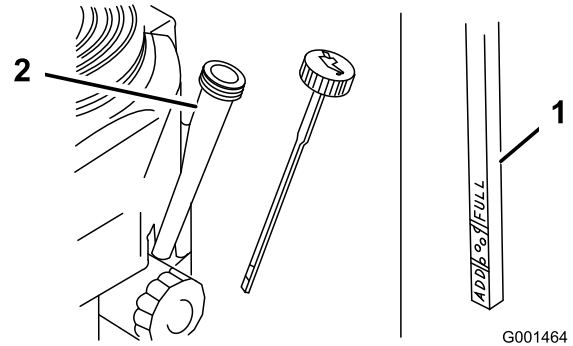

Figure 27
4. Clean around the oil dipstick (Figure 27) so that dirt cannot fall into the filler hole and damage the engine.
5. Unscrew the oil dipstick and wipe the end clean (Figure 27).
6. Slide the oil dipstick fully into the filler tube, but do not thread onto tube (Figure 27).
9. Slowly pour approximately 80% of the specified oil into the filler tube (Figure 27).